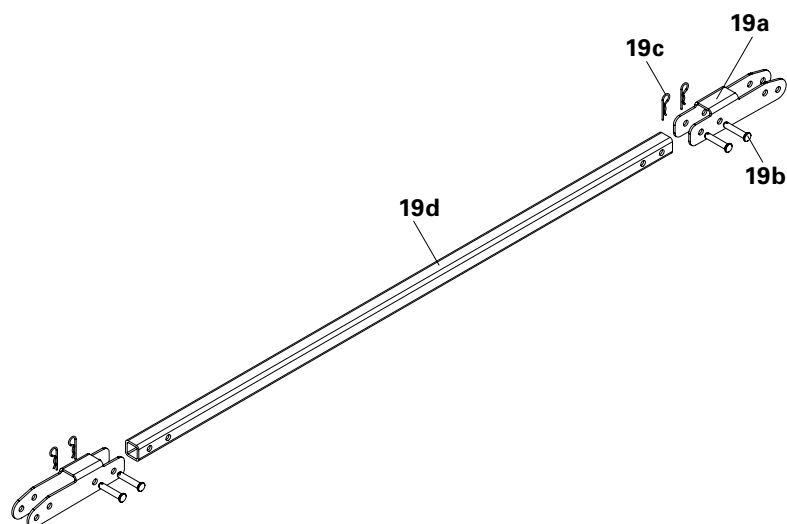

Fig. A1.11
2. Rectangular tube (19d), Bolts (19b) and Cotter Pins (19c) are put to one side. (Fig. A1.11)